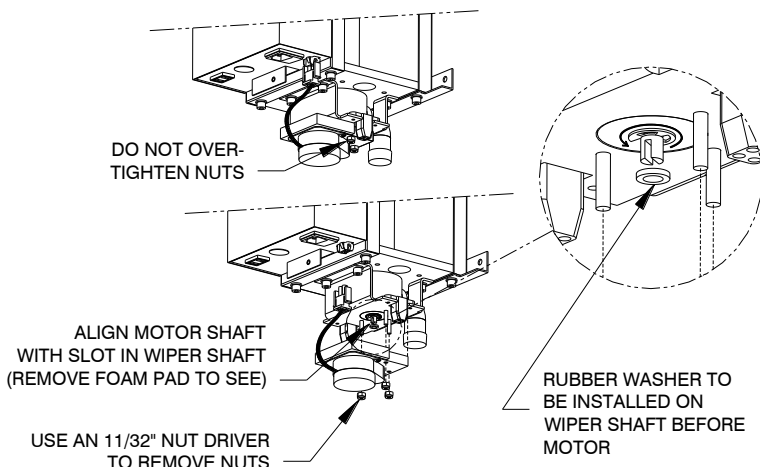

Figure 4C
Step 5: Disconnect the wiper motor (5) from the bottom bracket (22) by undoing the three nuts. See Figure 4C. Pull off the motor plate and foam pad (21) from